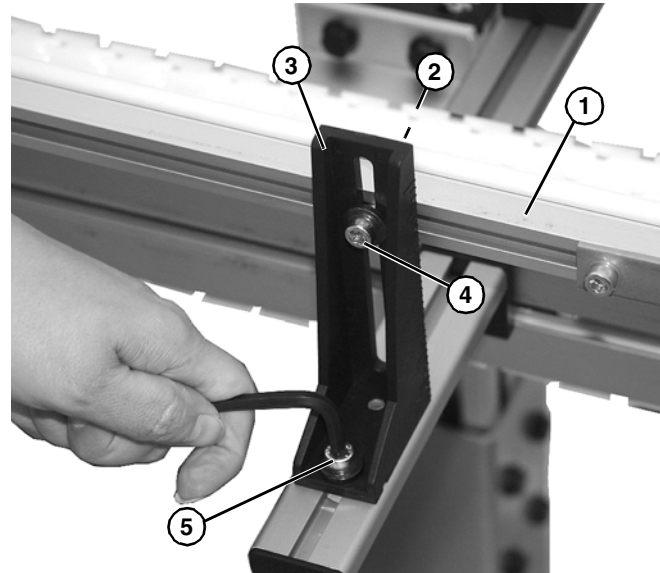

Figure 33
4. Install guide rail (Figure 33, item 1) onto square nut (Figure 33, item 2) onto mounting bracket (Figure 33, item 3) with socket head screw (Figure 33, item 4) or handle (Figure 34, item 1) for tool-less guiding.
5. Loosen socket head screw (Figure 33, item 5) or handle (Figure 34, item 2) and adjust mounting bracket (Figure 33, item 3) as needed.
10. To adjust guiding width loosen screws (**Figure 33, item 5**) or handle (**Figure 34, item 2**). Adjust to desired width. Tighten screw or handle.
11. To adjust guiding height loosen screws (**Figure 33, item 4**) or handle (**Figure 34, item 1**). Adjust to desired height. Tighten screw or handle.